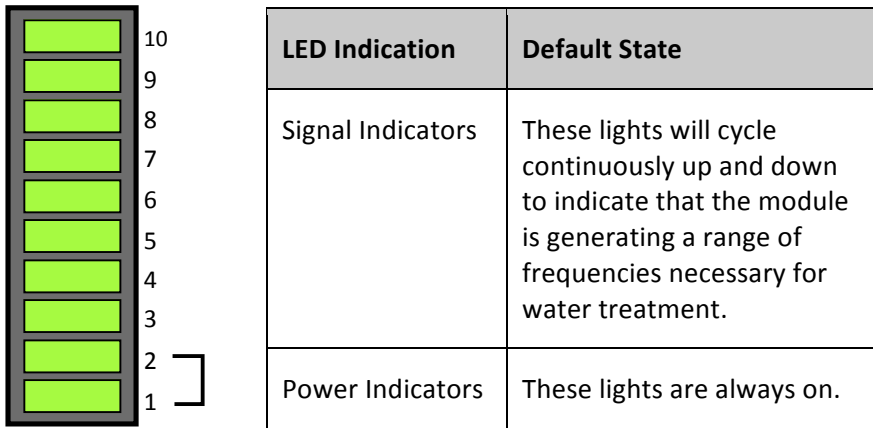

**Fig. 7 - Connect the QCC and Power Supply to the Control Module**
- Insert each end of the wire from the Quick Connect Coil to either of the spring clip receptacles (see Fig. 7) located on the Control Module. Note that polarity is not important.
- Attach the 12 Volt Power Supply Cord to the Control Module (see Fig. 7).